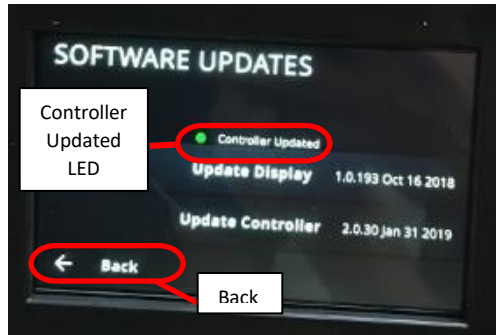

Figure E9: Settings Screen with Software Update Circled.
12. Verify "Controller Updated" with Green LED next to it appears after completion. See Figure E9.
13. Select BACK until home screen is reached. See Figure E9.